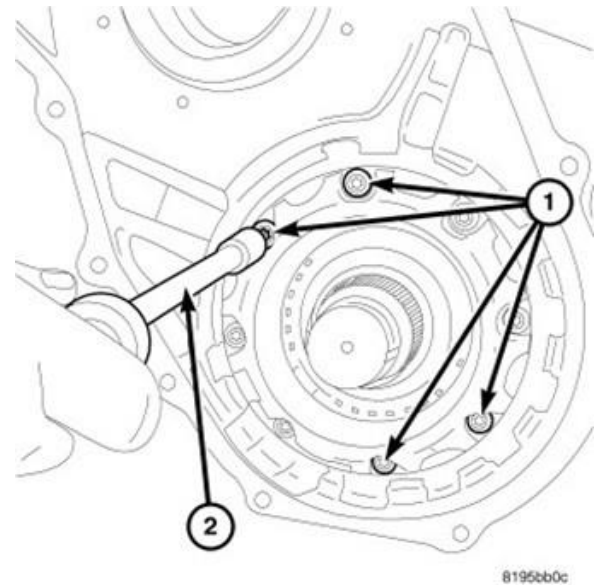

Figure 26 – Bearing Retainer Bolts
38. Remove 4 bolts (1) from compounder bearing retainer to allow attachment of Puller Adapter 9908 (Figure 26).
**NOTE:** The compounder bearing retainer bolts may be very tight so it is important to have a good fitting new driver tool (2) for removal of these bolts (1) or the bolts heads may become damaged during removal (Figure 26).